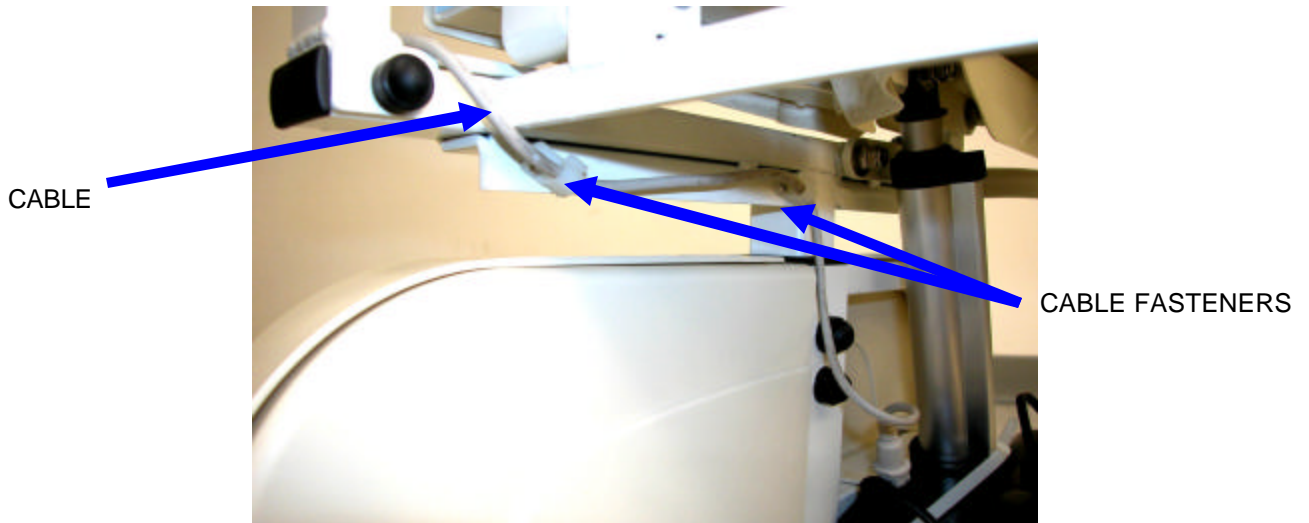

Figure M-3. Armrest Control Cable Mounting
- d. If installing the armrest with the control lever, connect the control cable from the armrest to the transformer/control box. Fasten control cable to frame. See Figure M-3.